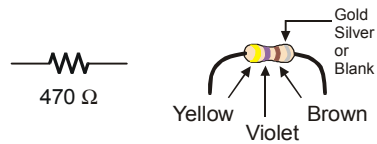
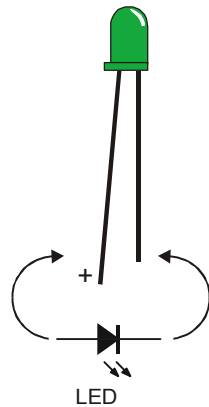

Figure 2-2
Figure 2-4
A resistor is a component that 'resists' the flow of electricity. This flow of electricity is called current. Each resistor has a value that tells how strongly it resists current flow. This resistance value is called the ohm, and the sign for the ohm is the Greek letter omega: Ω . The resistor you will be working with in this activity is the 470 Ω resistor shown in Figure 2-2. The resistor has two wires (called leads and pronounced "leeds"), one coming out of each end. There is a ceramic case between the two leads, and it's the part that resists current flow. Most circuit diagrams that show resistors use the jagged line symbol on the left to tell the person building the circuit that he or she must use a 470 Ω resistor. This is called a schematic symbol. The drawing on the right is a part drawing used in some beginner level Stamps in Class texts to help you identify the resistor in your kit.
Figure 2-4 shows an LED's schematic symbol and part drawing. An LED has two terminals. One is called the anode, and the other is called the cathode. In this activity, you will have to build the LED into a circuit, paying attention to make sure the leads connected to the anode and cathode are connected to the circuit properly. On the part drawing, the anode lead is labeled with the plus-sign (+). On the schematic symbol, the anode is the wide part of the triangle. In the part drawing, the cathode lead is the unlabeled pin, and on the schematic symbol, the cathode is the line across the point of the triangle.
Identifying the parts: In addition to the part drawings in Figure 2-2 and Figure 2-4, you can use the photo on the last page of the book to help identify the parts in the kit needed for this and all other activities. For more information on the parts in this photo, see Appendix B: Equipment and Parts Lists.
- √ Use Figure 2-4 to decide which lead is connected to the LED's cathode. Look for the shorter lead and the flat spot on the plastic part of the LED.